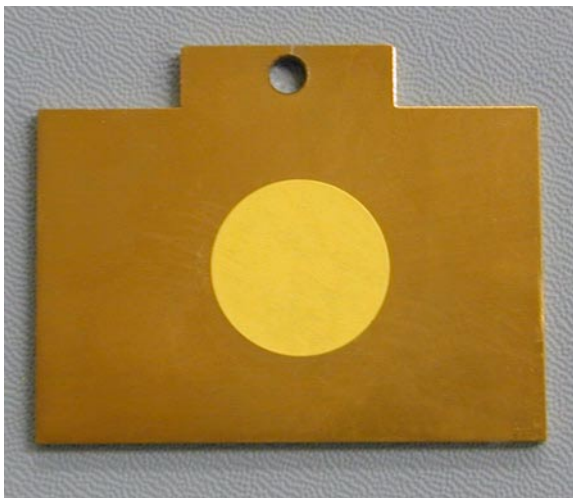

Figure 138 Target plate with yellow label at its center
- 3 Affix a yellow label to the center of the back side of a MALDI plate, as shown on Figure 138. Be careful to select the back of the plate rather than the front side since any adhesive residue from the label can contaminate the surface of the plate and render it unusable.